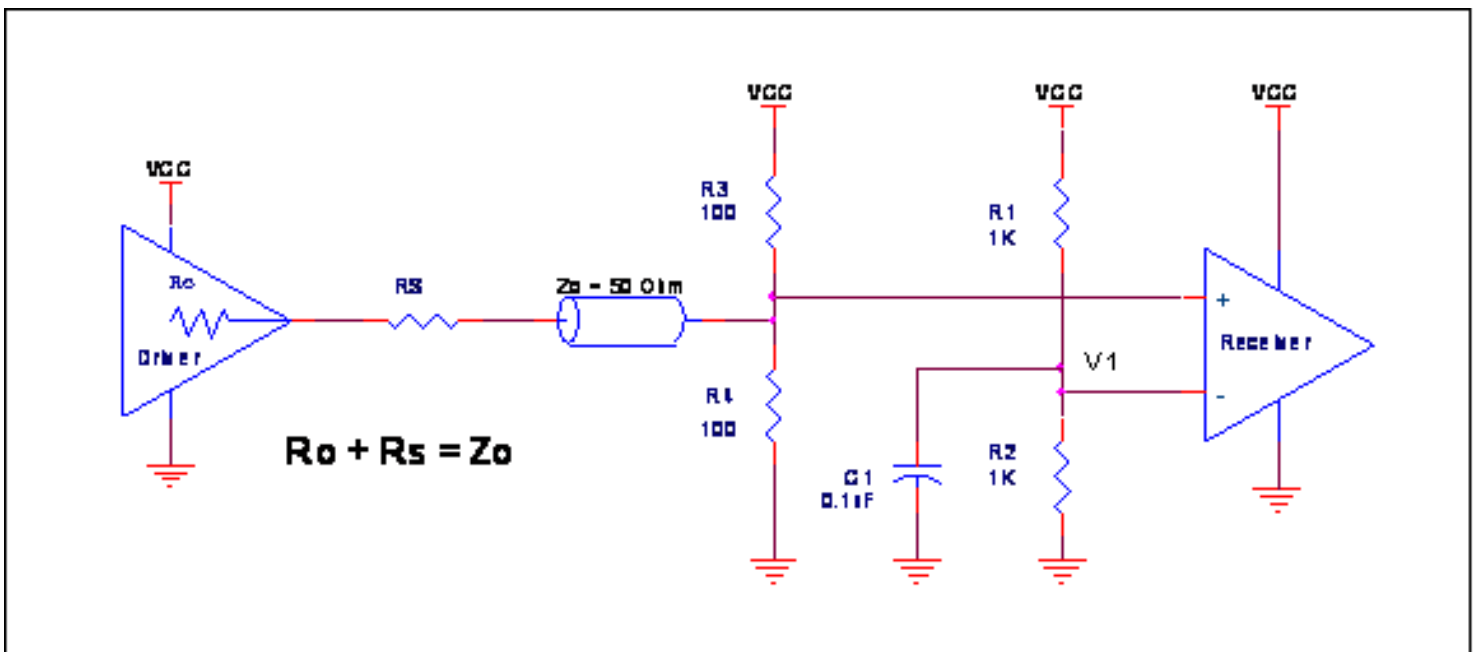

Figure 2. Recommended Schematic for Wiring a Differential Input to Accept Single-ended Levels
*Figure 2* shows how a differential input can be wired to accept single ended levels. The reference voltage  $V_1 = V_{CC}/2$  is generated by the bias resistors R1 and R2. The bypass capacitor (C1) is used to help filter noise on the DC bias. This bias circuit should be located as close to the input pin as possible. The ratio of R1 and R2 might need to be adjusted to position the  $V_1$  in the center of the input voltage swing. For example, if the input clock swing is  $2.5\text{V}$  and  $V_{CC} = 3.3\text{V}$ , R1 and R2 value should be adjusted to set  $V_1$  at  $1.25\text{V}$ . Similarly, if the input clock swing is  $1.8\text{V}$  and  $V_{CC} = 3.3\text{V}$ , R1 and R2 value should be adjusted to set  $V_1$  at  $0.9\text{V}$ . It is recommended to always use R1 and R2 to provide a known  $V_1$  voltage. The values below are for when both the single ended swing and  $V_{CC}$  are at the same voltage. This configuration requires that the sum of the output impedance of the driver ( $R_o$ ) and the series resistance ( $R_s$ ) equals the transmission line impedance. In addition, matched termination at the input will attenuate the signal in half. This can be done in one of two ways.